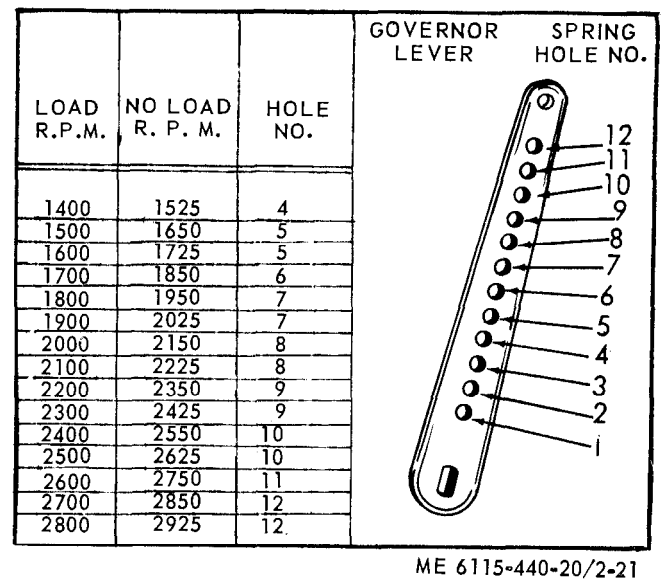

Figure 2-21. Governor lever adjustment chart.
b. The governor lever is furnished with 12 holes for attaching the governor spring as shown in figure 2-21. It is very important that the spring is hooked into the proper hole to suit the speed at which the engine is operated. The governor lever chart (fig. 2-21) shows the full load and no load speeds of the engine and the hole corresponding thereto. The full load speed will be from 150 to 125 revolutions less than the no load speed. As an example; if the engine is to be operated at 2000 revolutions per minute under load, the spring should be hooked into the 8th hole in the governor lever and the spring tension adjusted by means of the adjusting screw connected to the spring, to run 2150 revolutions per minute, without load. The speed at full load will then be approximately 2000 revolutions per minute. A tachometer or revolution counter should be used against the crankshaft while making this adjustment.